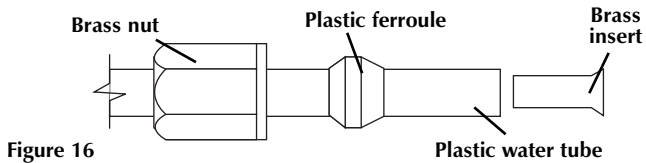

Figure 16
2. Prepare the end (fig 16) of the 1/2" tubing for water connection to the humidifier (all required hardware supplied in the valve kit).